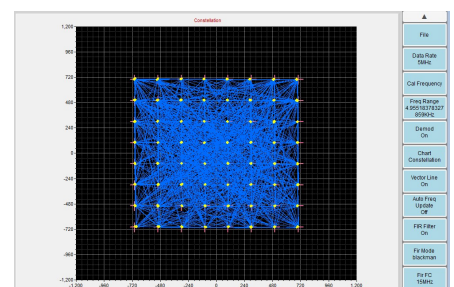

Fig.47 64QAM Constellation
- **Constellation:** Select *Constellation* in the Chart menu. All **64 constellation points** will be displayed (see Fig. 47). If the points are not converging cleanly, adjust the frequency slightly until they stabilize.